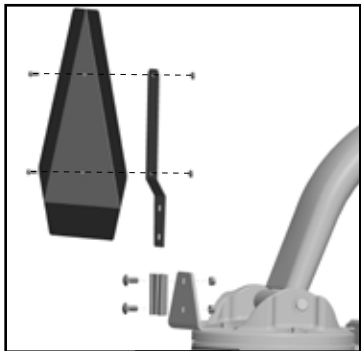

FIG. 5
STEP 9: Install the SMV kit (PN 20069) (see FIG. 5).